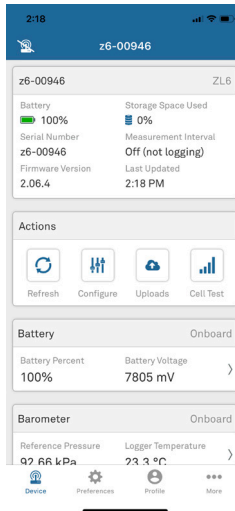

Figure 12 Select Test to begin Communication Test
1. Select the Cell Test button on the Actions panel (Figure 12).